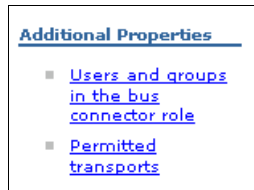

Figure A-47 Navigating to Users and groups in the bus connector role for WebSphere Business Monitor
- g. Navigate back to the **Disabled** link of the current bus. Under Additional Properties, click **Users and groups in the bus connector role** (Figure A-47).